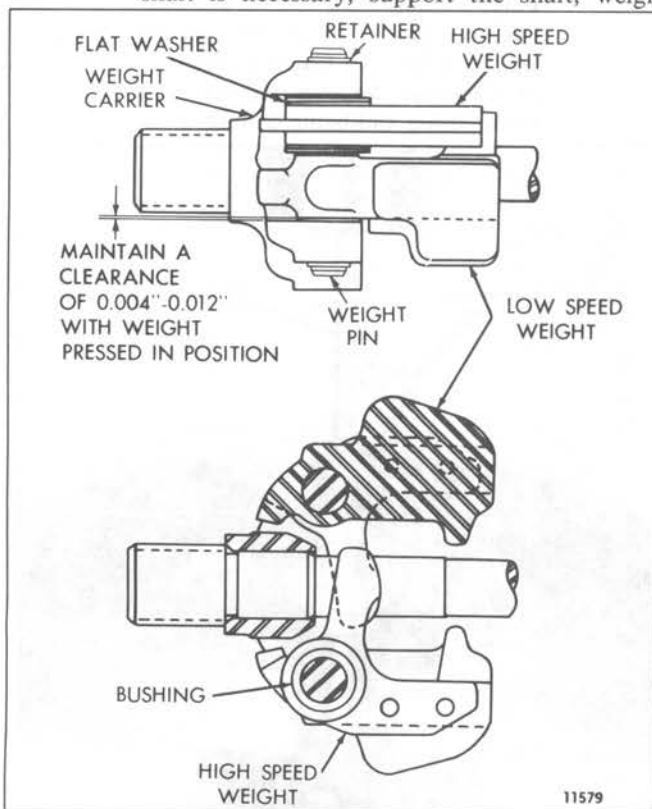

Fig. 12 - Cross Section of Governor Weight Assemblies (Turbocharged Engines)
- a. If removal of the weights from the carrier is necessary, remove the retainers and press the weight pins from the low-speed weights (Fig. 12). The high-speed weights are not a press fit.